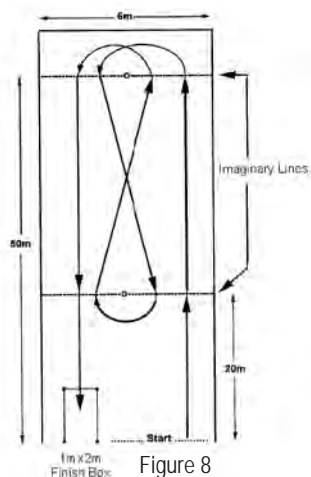

Figure 8
## 21.28 FIGURE 8 COURSE
- 21.28.0.3 Competitors will leave start line circle the markers in a Figure 8 course and return to the stop box.
## 21.28.1 Figure 8 Course Elimination